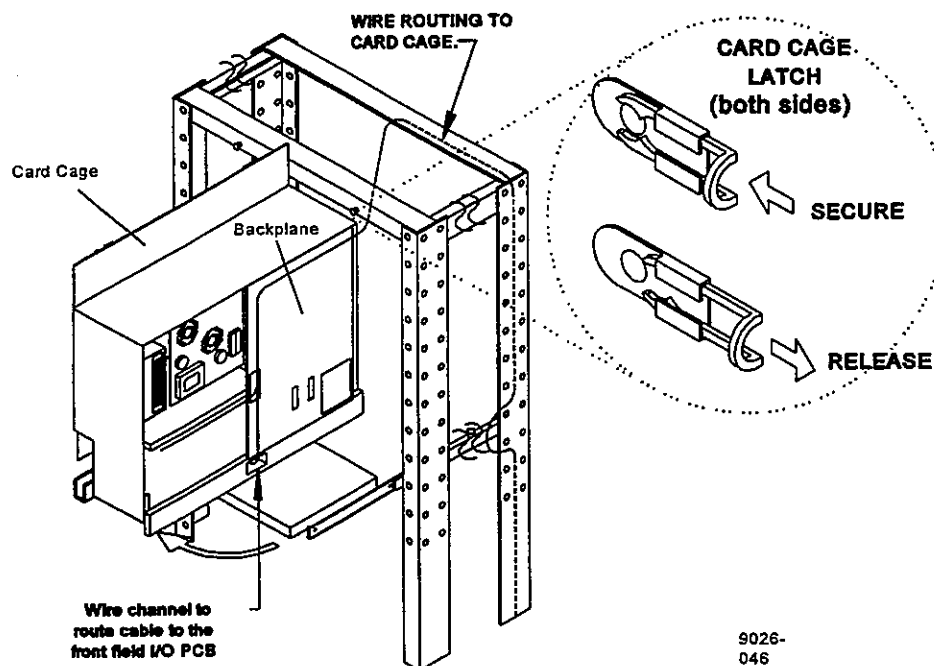

FIGURE 2-6 RPU WIRE ROUTING
20. Route the system cables (See SECTION 8 for system wiring information) to be connected to card cage PCBs up the RPU frame (FIGURE 2-6). Secure the cables to the frame with tie-wraps. Assure sufficient service loops so the card cage can be extended without cable tension trying to pull it back in.